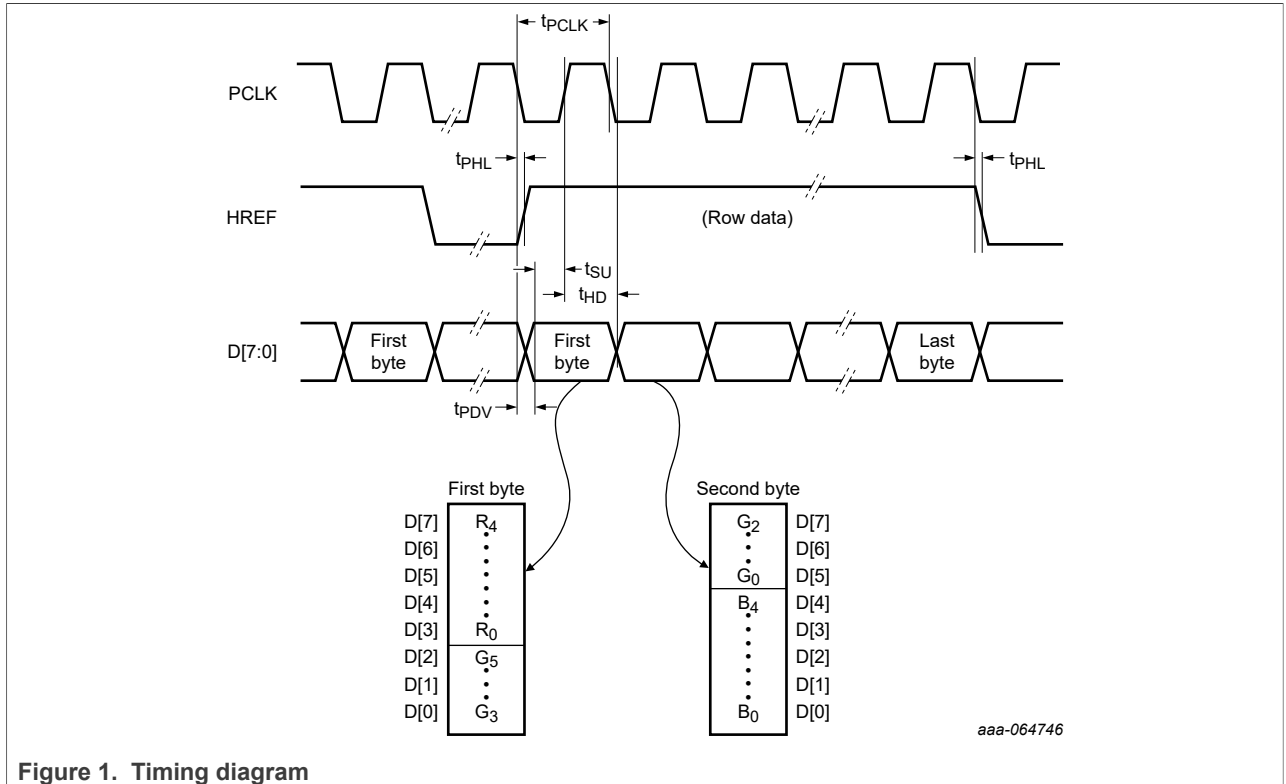

Figure 1. Timing diagram
1. The camera module must be configured in the RGB565 mode with the timing diagram as shown in Figure 1.